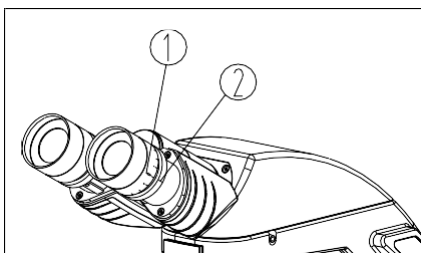

Fig. 16
Align the scale "0" of diopter adjustment ring① with the scale②, and then focus to get a clear image. Then observe through the other eyepiece, rotate the diopter adjustment ring until it is clear. (see Fig.16).